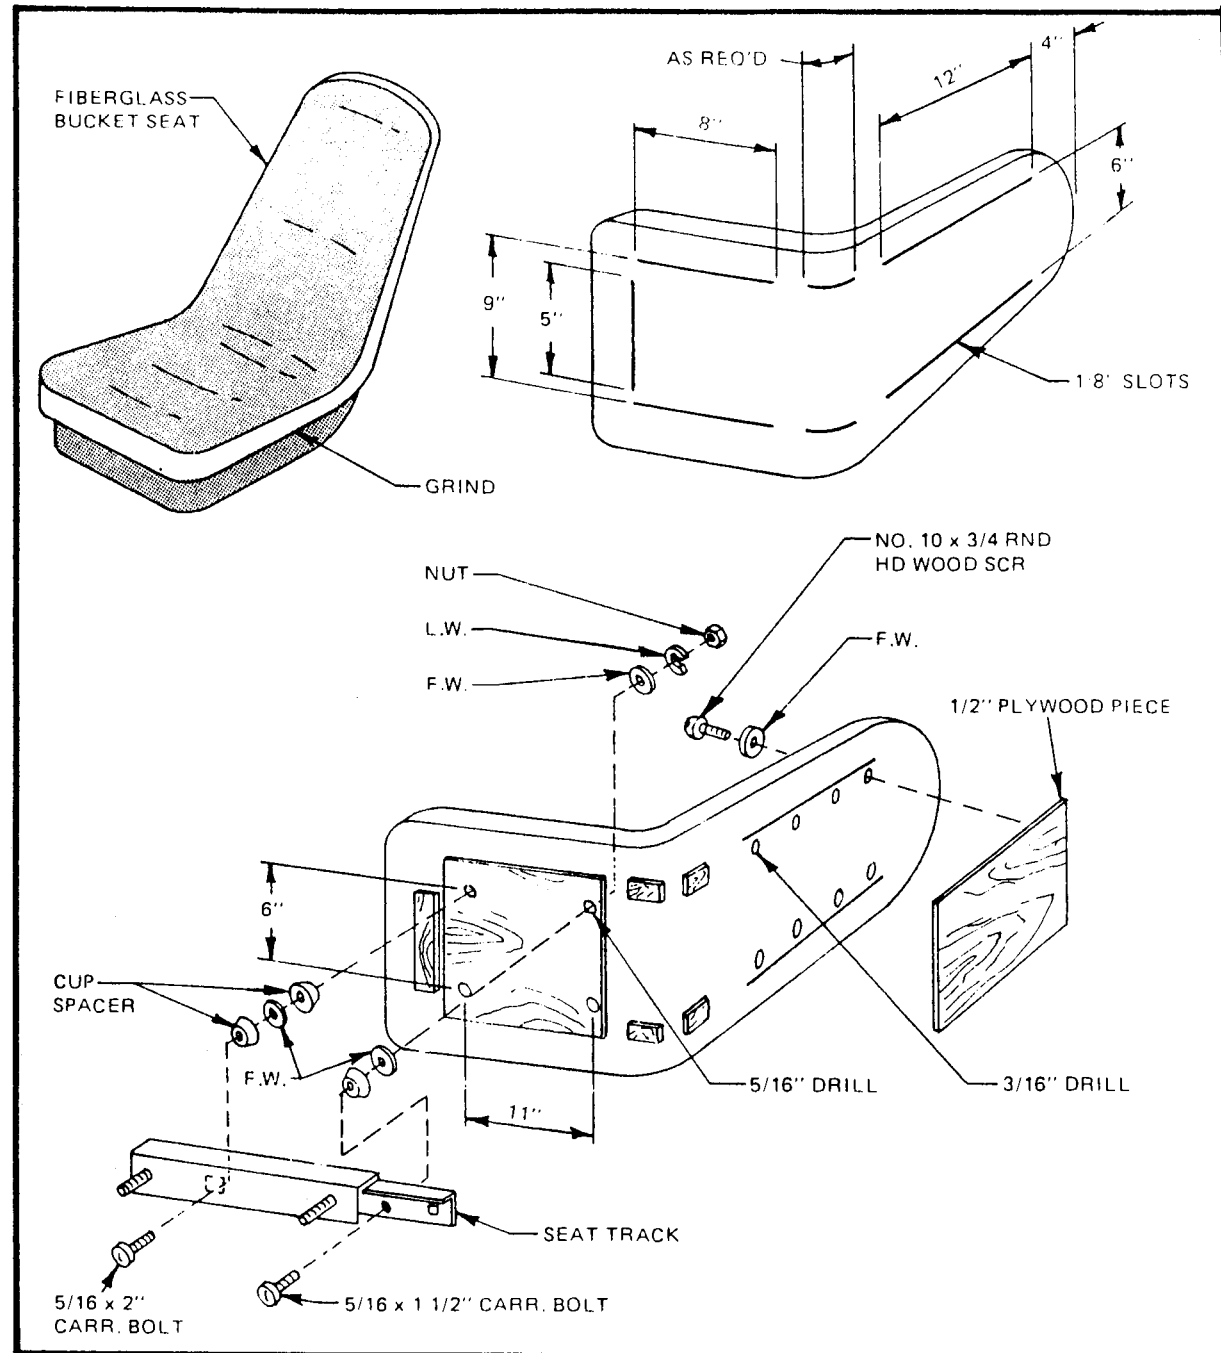

Figure 9
- Turn the bucket seats on their sides and mark the back side for cuts as shown in Figure 9.
- Cut 1/2" plywood pieces so they fit inside the slots cut into the seats. The upholstery will be stapled to the plywood and it further supports the seat. Four small 1" wide strips are used as shown in Figure 9. Attach plywood to seat bottom by drilling 3/16" holes and securing with No. 10 3/4" round wood screws.
NOTE: Cup spacers are used between the seat tracks and seat bottom. This allows the slide lock to move freely. If you desire more of an angle, place 2 cup washers together with a washer in between. (Figure 9) This will give the seat a more comfortable angle and help the seat tracks clear the carpeting when installed.